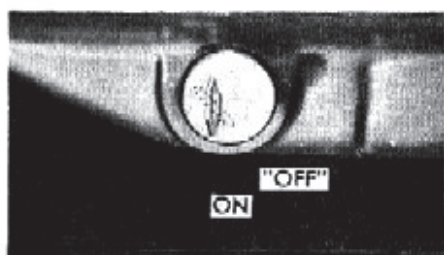

Fig. 5—Ignition Switch
**Ignition Switch.** The ignition switch is located near the bottom of the instrument panel to the right of the steering column (fig. 5).